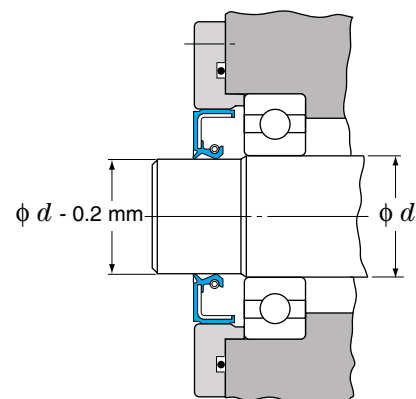

Fig. 1.7.2 Recommended shaft profile and machine construction to avoid damaging shaft surface
- 5) To avoid damage on seal lip and shaft surface when seal is mounted onto shaft. Shaft edge should be chamfered or 0.2 mm smaller guide as illustrated below (Fig.1.7.2).